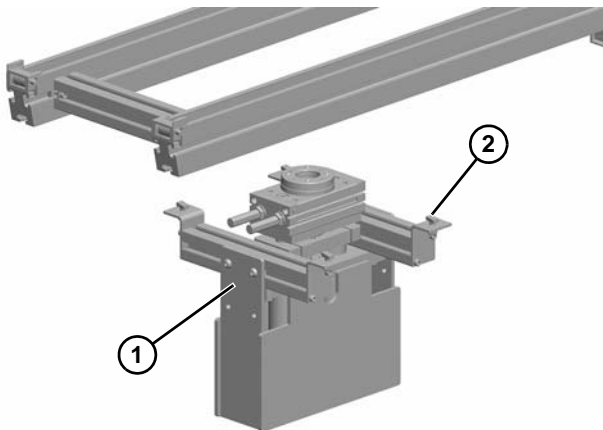

Figure 52
2. Raise lift and rotate station (**Figure 52, item 1**) into position from under the conveyor, lining up bolts (**Figure 52, item 2**) with follower nuts in conveyor channel.